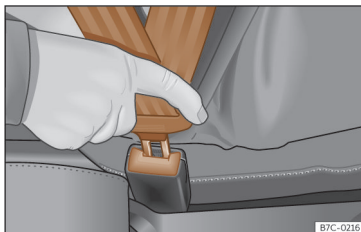

Fig. 20 Insert the latch plate of the seat belt into the buckle.
- Insert the buckle plate in the buckle of the correct seat >>> **Fig. 20.**